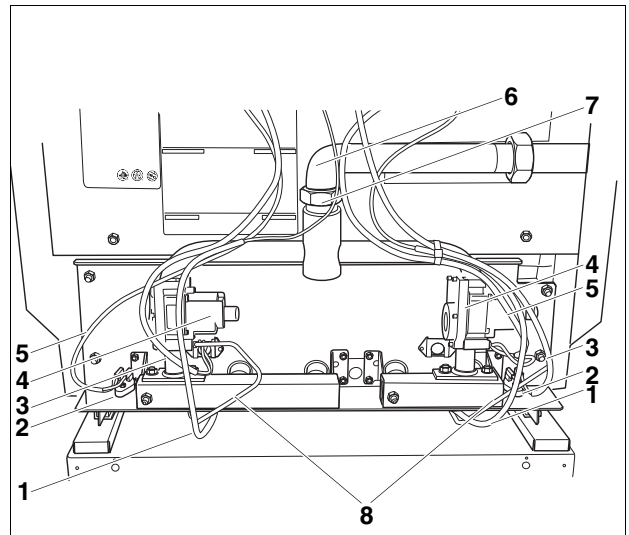

Fig. 3 Front view
15. Tighten the screws (→ Fig. 3, page 5) between the gas valve and the burner again. Make sure that the connection pipe gasket removed in step 8 is replaced.
19. Connect ignition gas line (→ Fig. 3, page 5) to the gas valve again.
20. Connect ignition cables (→ Fig. 3, page 5) to the automatic igniters.